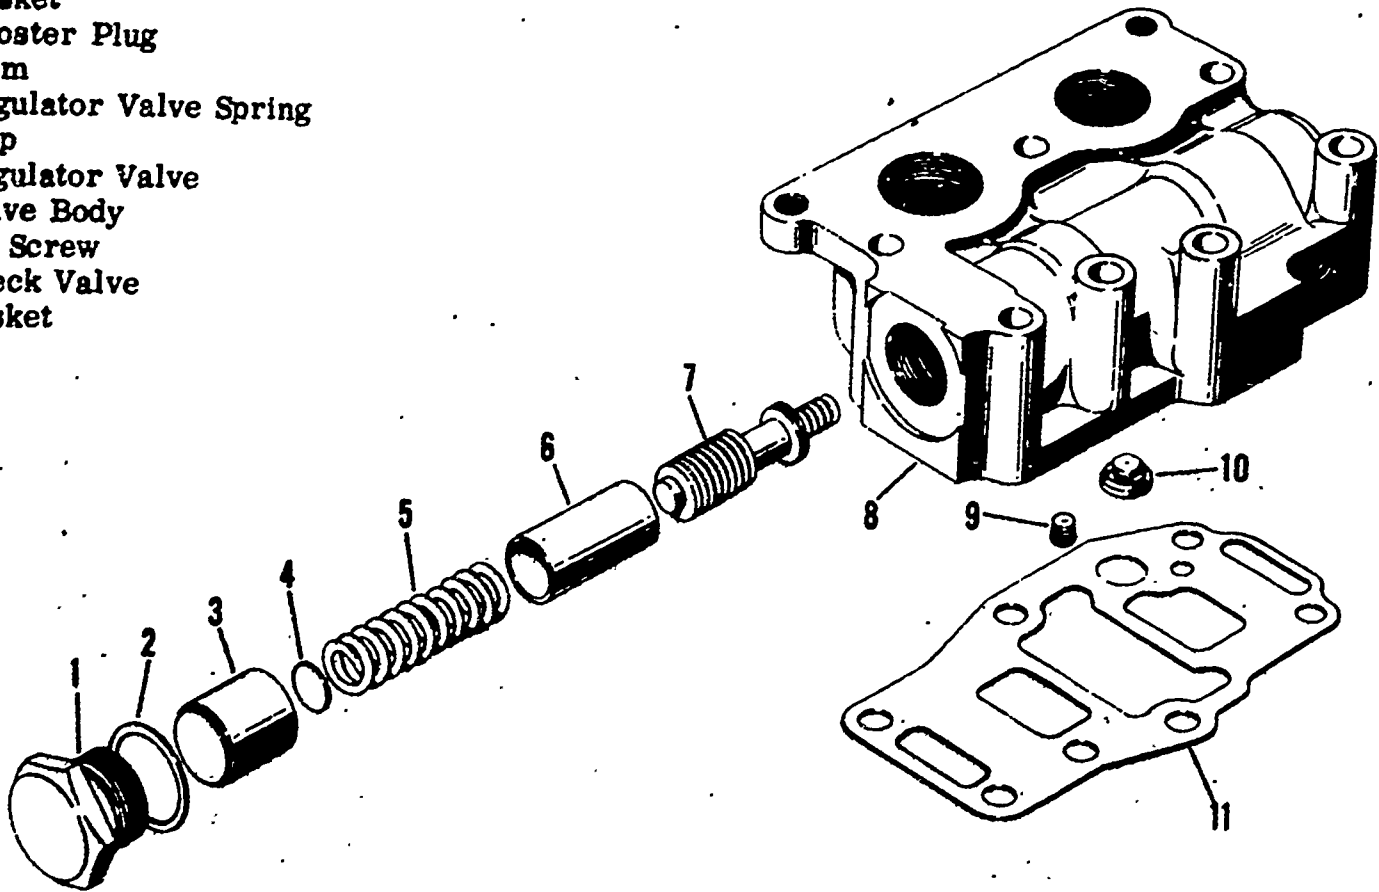

Fig. 9 Exploded view of main regulator valve
DESCRIPTION -- (NOTE: For the following discussion, refer to Figure 9). The valve assembly consists of the plug (1), gasket (2), booster signal (3), valve spring (5), stop (6) and main regulator valve (7).